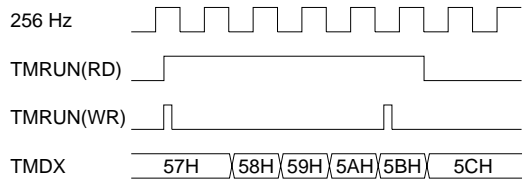

Fig. C.1 Timing chart of RUN/STOP control
- (1) The clock timer is actually made to RUN/STOP in synchronization with the falling edge of the 256 Hz signal after writing to the TMRUN register. Consequently, when "0" is written to the TMRUN, the timer shifts to STOP status when the counter is incremented "1". The TMRUN maintains "1" for reading until the timer actually shifts to STOP status. Figure C.1 shows the timing chart of the RUN/STOP control.